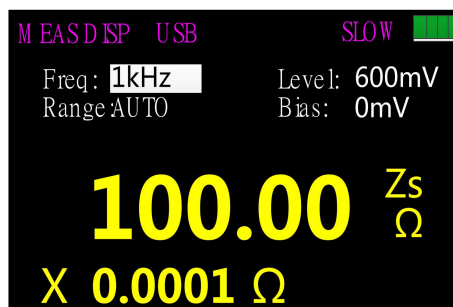

Figure 21
2. Press the **AUTO/R/C/L/Z** key until Zs is displayed on the interface which means to select impedance measurement, shown in figure 21;